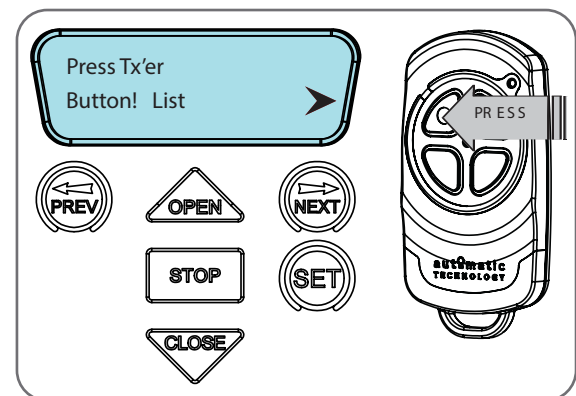

Fig 10.2
- Press the transmitter button you wish to use to operate the opener (e.g. button 1) (**Fig. 10.2**).